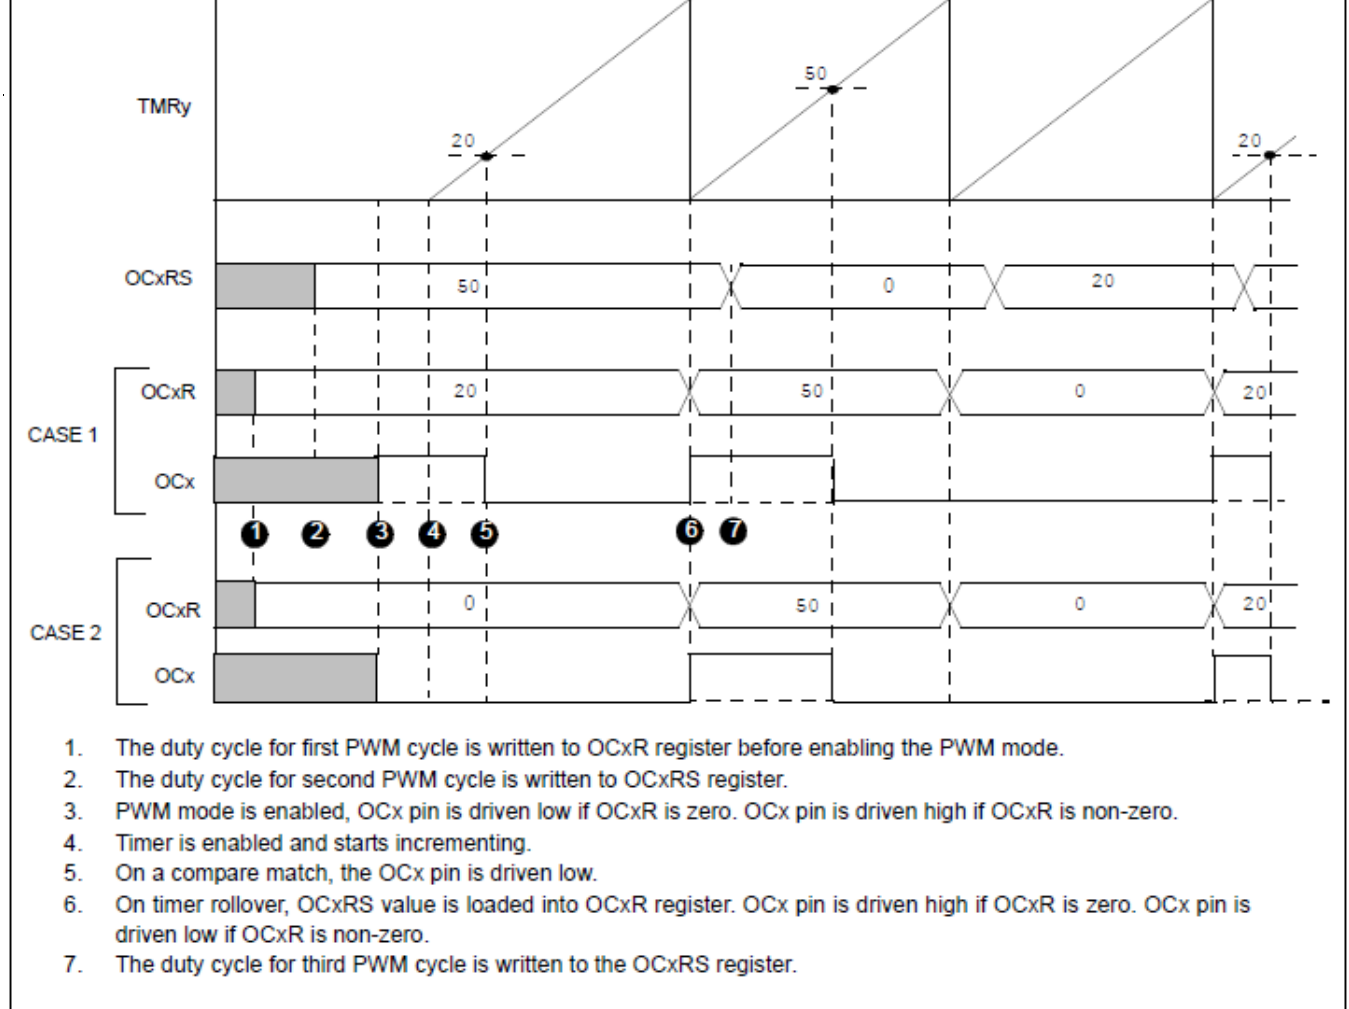

Figure 2: Output Compare Operation: PWM mode
Output Compare Operations: The Output Compare has 7 operating modes of which "PWM mode without fault protection" will be used in CS431 labs. Figure 2 illustrates the output compare operation in this mode. It works as follows:
- Driven high if the OCxR register value is non-zero (refer to Case 1 in Figure 2)
- Driven low if the OCxR register value is zero (refer to Case 2 in Figure 2)